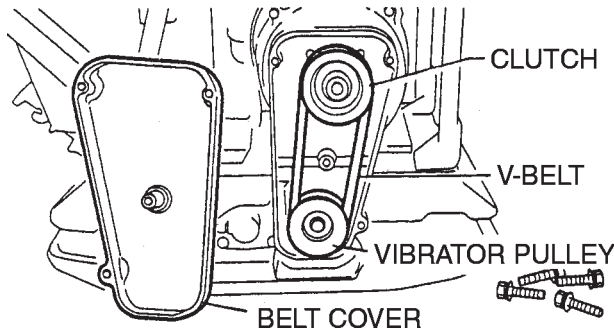

Figure 30. V-Belt Check
- After 200 hours of operation, remove the belt cover to check the V-belt tension (Figure 30). Tension is proper if the belt bends about 3/8" (10 mm) when depressed strongly with finger between shafts. Loose or worn V-belts reduces power transmission efficiency, causing weak compaction and reduces the life of the belt itself.